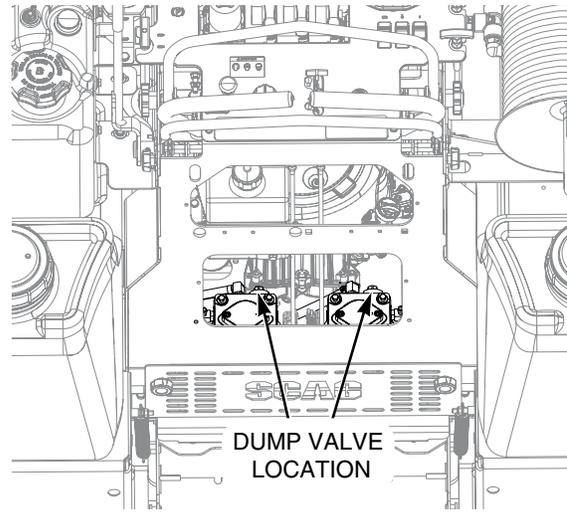

Figure 4-3. Dump Valve Controls
10. Dump Valve Controls (Figure 4-3). Located on the hydraulic pumps, used to "free-wheel" the machine. Rotating clockwise until they stop, allows the unit to move under hydraulic power. The levers must be in this position and torqued to 7-10 lb-ft during operation of the machine. Rotating counter-clockwise allows the machine to be moved by hand (free-wheeling). See Figure 4-3.